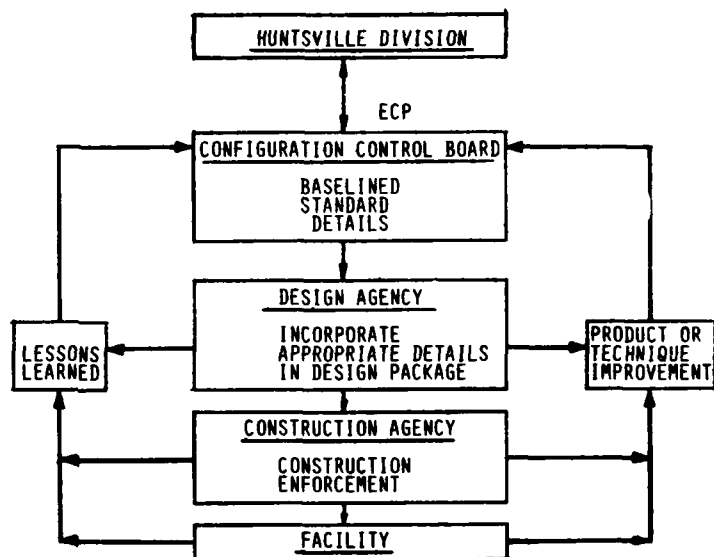

FIGURE 1
- TO AVOID TECHNICAL OBSOLESCENCE IN TECHNOLOGIES, ARCHITECTURAL/ENGINEERING DETAILS SHALL BE REVIEWED AS A RESULT OF EXPERIENCE GAINED. RANGE OF CERTAIN STANDARD DETAIL PROPOSED CHANGES AND ADDITION BASELINED STANDARD DETAILS ARE BE DISCOURAGED. ALL PROPOSED DELETIONS, REGARDLESS OF THEIR OF THE NATURE AND PURPOSE OF CHANGE, SHALL BE REVIEWED THROUGH AS ECPs FOR NECESSARY CONCERNED AGENCIES AND FOR APPROVAL (HUNTSVILLE DIVISION) WILL SERVE COORDINATING ALL ACTIVITIES ASSOCIATED WITH THE ARCHITECTURAL STANDARD CHART INDICATED IN FIGURE 1.
1. TO AVOID TECHNICAL OBSOLESCENCE AS A RESULT OF ADVANCES IN TECHNOLOGIES, ARCHITECTURAL/ENGINEERING PRACTICES, OR AS A RESULT OF EXPERIENCE GAINED FROM THE ACTUAL PERFORMANCE OF CERTAIN STANDARD DETAILS INSTALLED AT AAPs, PROPOSED CHANGES AND ADDITIONS TO OR DELETIONS FROM BASELINED STANDARD DETAILS ARE INEVITABLE AND SHOULD NOT BE DISCOURAGED. ALL PROPOSED CHANGES, ADDITIONS OR DELETIONS, REGARDLESS OF THEIR ORIGINATING AGENCIES OR OF THE NATURE AND PURPOSE OF CHANGE, MUST BE PROCESSED THROUGH AS ECPs FOR NECESSARY REVIEW BY VARIOUS CONCERNED AGENCIES AND FOR APPROVAL BY THE CCB. THE CE (HUNTSVILLE DIVISION) WILL SERVE AS THE FOCAL POINT FOR COORDINATING ALL ACTIVITIES ASSOCIATED WITH THE MODIFICATION OF THE ARCHITECTURAL STANDARD DETAILS. THE FLOW CHART INDICATED IN FIGURE 1 WILL SERVE THIS PURPOSE.